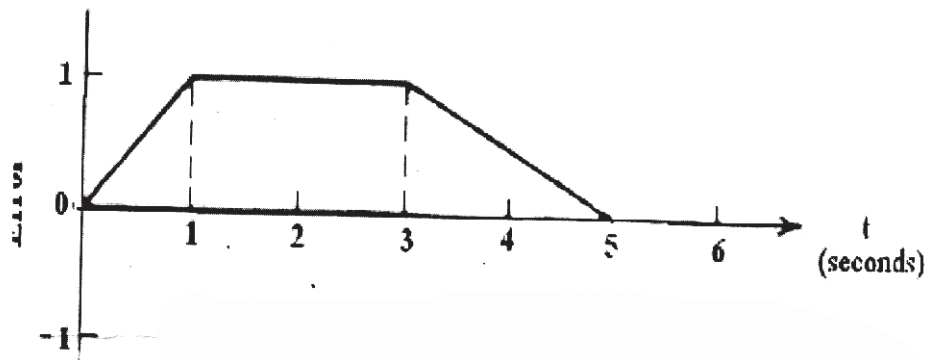

Figure 4
- Q9) a)** Figure 4 shows an error versus time graph. Sketch the PD controller (parallel form) output with respect to time. Assume $K_p = 10\%/s$, $K_D = 0.5\% / s$ and $P_0 = 20\%$. [10]